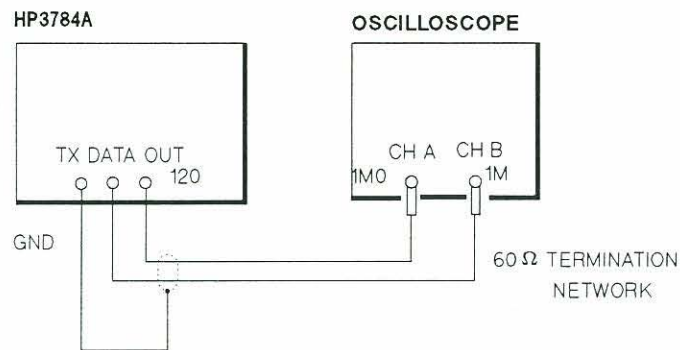

Figure 8-36 64 kbit/s Pulse Shape Test Setup
120 $\Omega$ Balanced to Twin BNC Pair .....	See Figure 8-36
1. Connect the equipment up as shown in Figure 8-36.